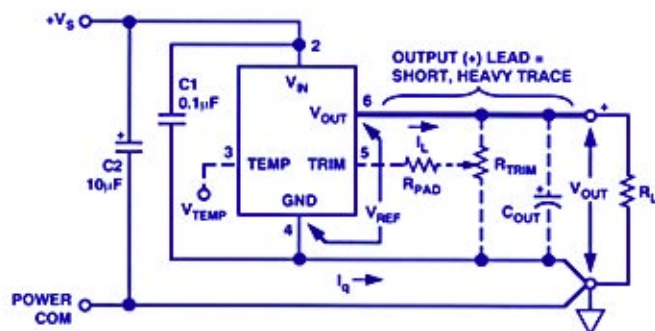

Figure 5. Standard positive-output three-terminal reference hookup (8 pin DIP pinout).
Figure 5 shows the standard basic pinout (input-2, output-6, ground-4) for +2.5-, +5-, and +10-volt IC references in 8-pin cans and DIPs. Additional pins may be used for important housekeeping details, such as optional trimming (e.g.,  $R_{TRIM}$  at pin 5) or providing a PTAT kelvin-scale thermometer output—an inherent bonus feature in bandgap devices (" $V_{TEMP}$ " at pin 3). In general, all references should use an adjacent RF-quality input bypass capacitor,  $C_1$ , sometimes paralleled with larger  $C_2$  for increased capacitance, to handle noisy sources and rapidly varying heavy loads. Some references may also allow (or require) an output bypass,  $C_{OUT}$ —or a noise-reduction capacitor connected to an internal point. Layouts should use a short, heavy (+) output conductor to minimize IR drops, while the (-) lead is less critical in this configuration, typically carrying  $\leq 1$  mA.
**Load Sensitivity:** Load sensitivity, or output impedance, is usually specified in  $\mu$ V/mA of load current (or m $\Omega$ ), for output source currents of 0-10 mA. A reasonable value at low frequencies is 100 m $\Omega$  or less (AD780, REF43, REF195), but without due care, external wiring drops can add a comparable amount of series impedance, producing additional error (see Figure 5). Errors depending on load current are minimized with short, heavy conductors on the (+) output, and return wires to reference and power common from the low end of the load. For the highest precision, buffer amplifiers and separate force-sense (or Kelvin) connections—like those provided in the AD588 & AD688—can guarantee a precise voltage at the point-of-loading. Several of the applications illustrate Kelvin sensing.